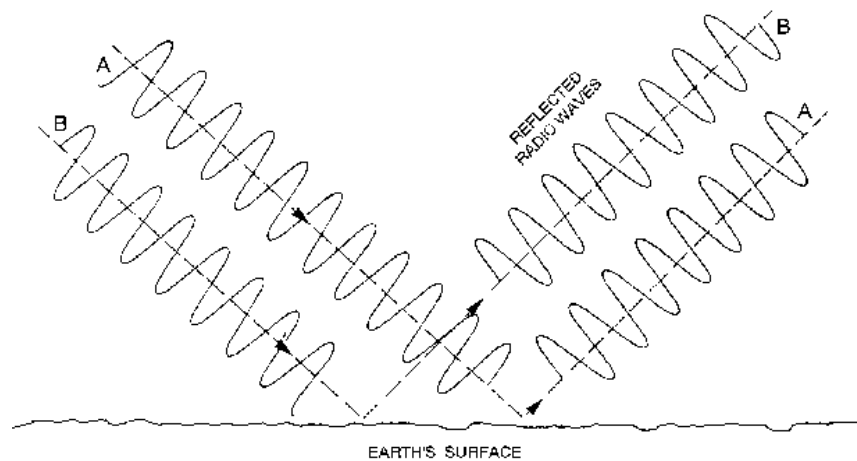

Figure 2-7.—Phase shift of reflected radio waves.
When radio waves are reflected from flat surfaces, a phase shift in the alternations of the wave occurs. Figure 2-7 shows two radio waves being reflected from the Earth's surface. Notice that the positive and negative alternations of radio waves (A) and (B) are in phase with each other in their paths toward the Earth's surface. After reflection takes place, however, the waves are approximately 180 degrees out of phase from their initial relationship. The amount of phase shift that occurs is not constant.